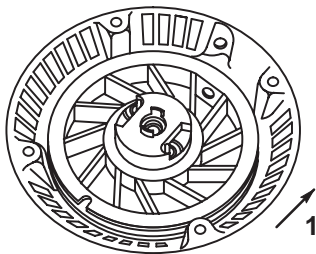

Fig. 77 – Engaging Spring
3. Rotate pulley counterclockwise until slight resistance is felt, indicating that spring is engaged in spring tab in housing, Fig. 77.